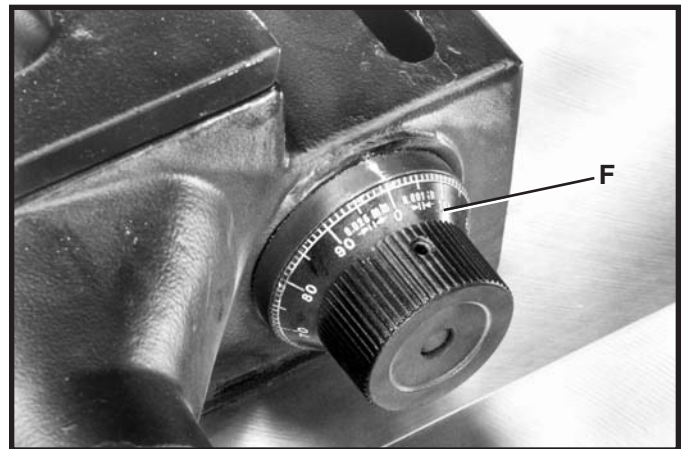

Fig. 49
5. Indicator collars (F) Fig. 49, are supplied to give the exact dimension each fence half is moved.